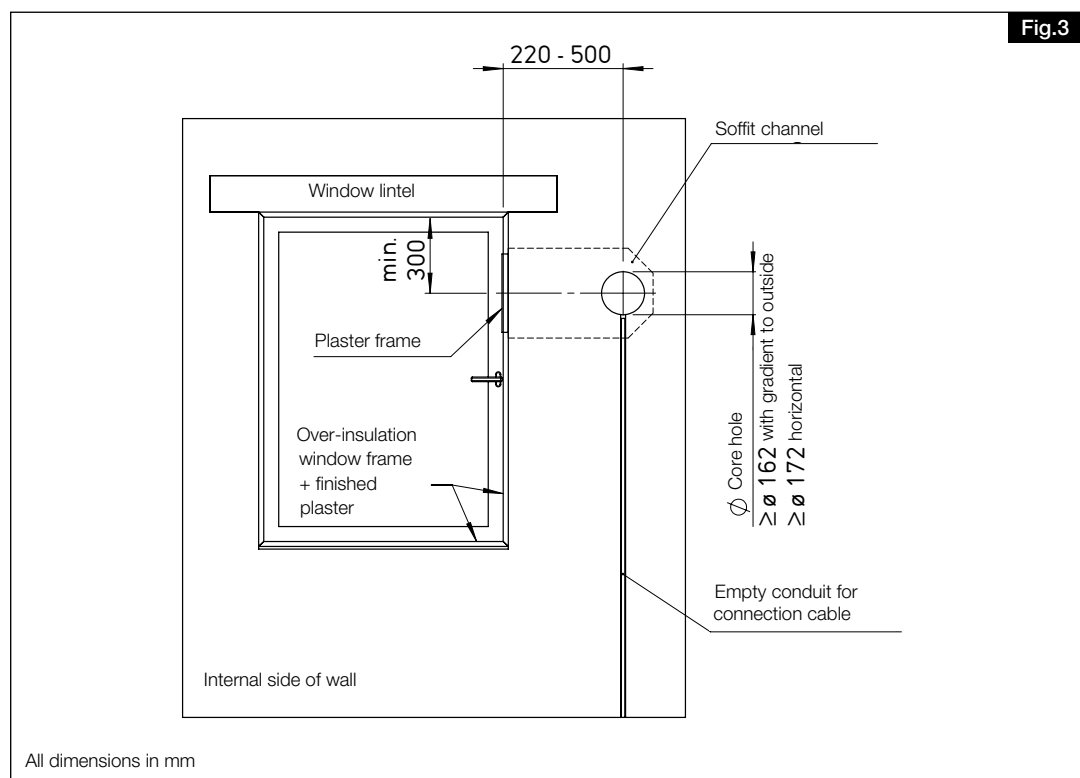

Fig.4
The length of the wall installation sleeve ① comprises the thickness of the uncovered wall with internal finished plaster and the insertion depth in the soffit channel ② (see Fig.4).
The shortenable areas of the soffit channel ③ and the plaster frame ④ are shown in Fig.4.
④ Height of plaster frame